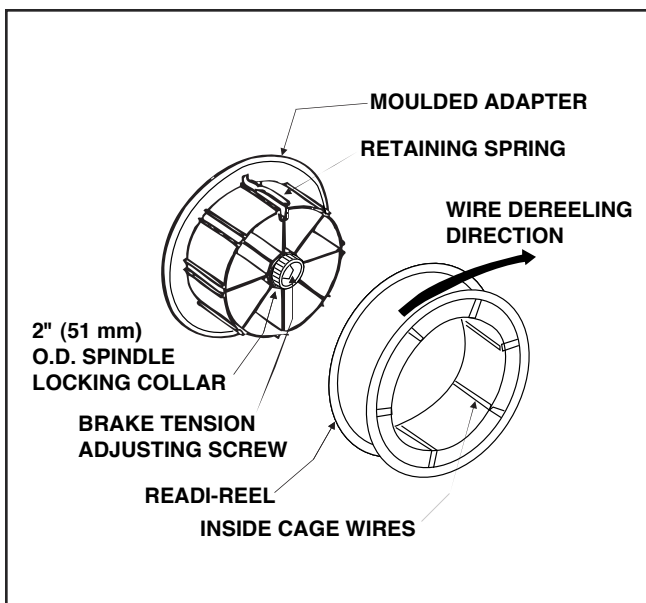

FIGURE B. 8 - Wire Reel Loading.
3. Position the Readi-Reel so that it will rotate in a clockwise direction when wire is dereeled from the top of the coil. See Figure B. 8.